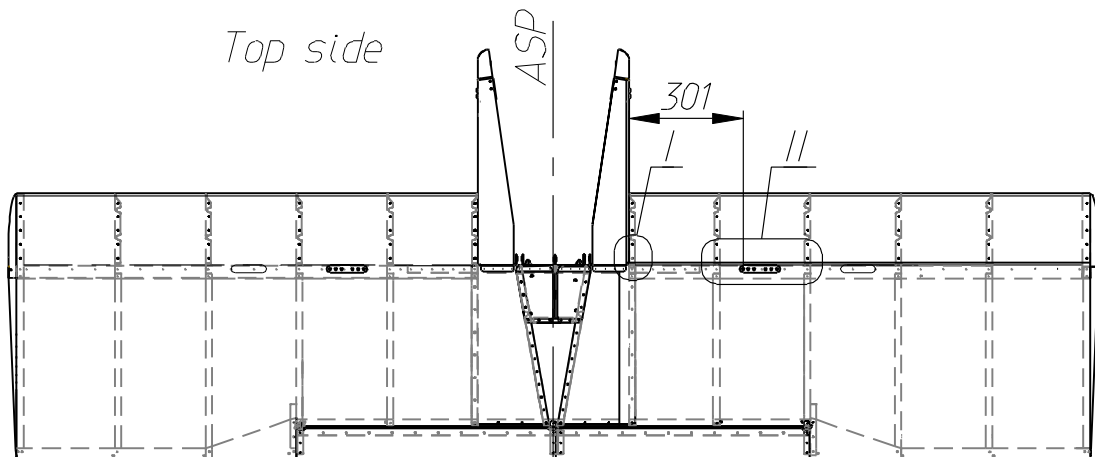

Fig. 1
Inspect the AMHT in the area of mod kit parts installation (see detail views II and IV in fig. 1 and 2) for dents, deformation and cracks. If any damage is found in the above mentioned areas consult the manufacturer.
- 1.1. Mark 2 holes (1 per righthand/lefthand side) on the top side of the AMHT at 301 mm distance as shown in fig. 1 and 3.